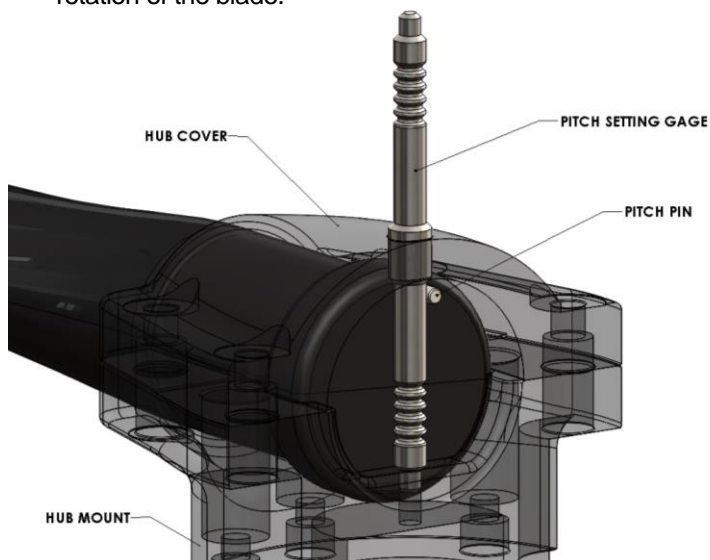

FIGURE 5. PITCH SETTING GAGE DETAIL
8. Insert the pitch setting gage through that blade's receiving hole in the hub cover half and into the gage hole in the hub mount half. See **Figure 5**. Unless specified by the aircraft manufacturer, use pitch setting 4 to start. The pitch setting # indicates relative pitch; pitch 5 is higher pitch than pitch setting 4, etc...
3. Insert the desired pitch setting gage into the receiving hole in the hub cover half and gage hole in the hub mount half. See **Figure 5**.